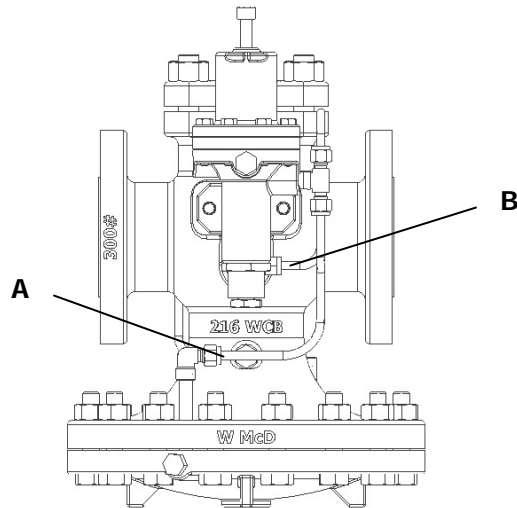

Figure 8: Tubing Location Detail
2. Disconnect the tubing line to the diaphragm chamber at A. See Figure 8.